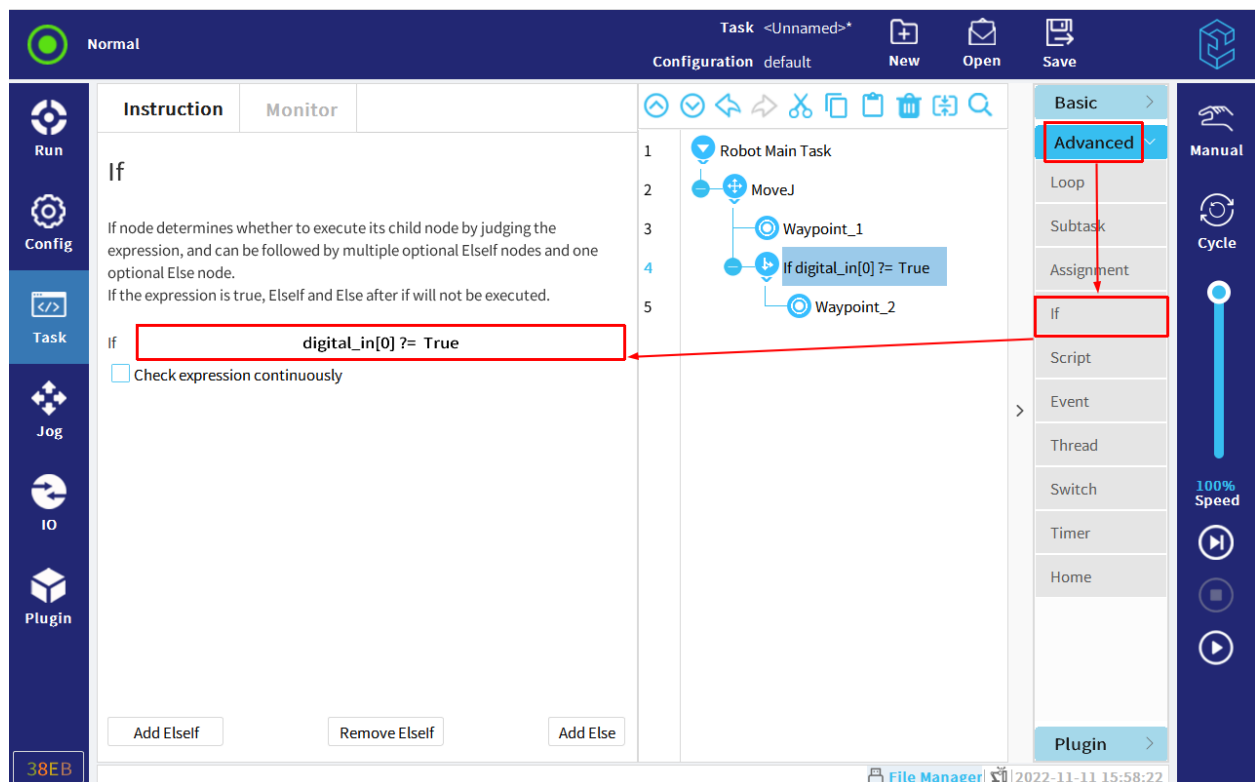

Figure 12-23 If
2. Click "If" in the task tree to modify the expression, as shown in Figure 12-23.